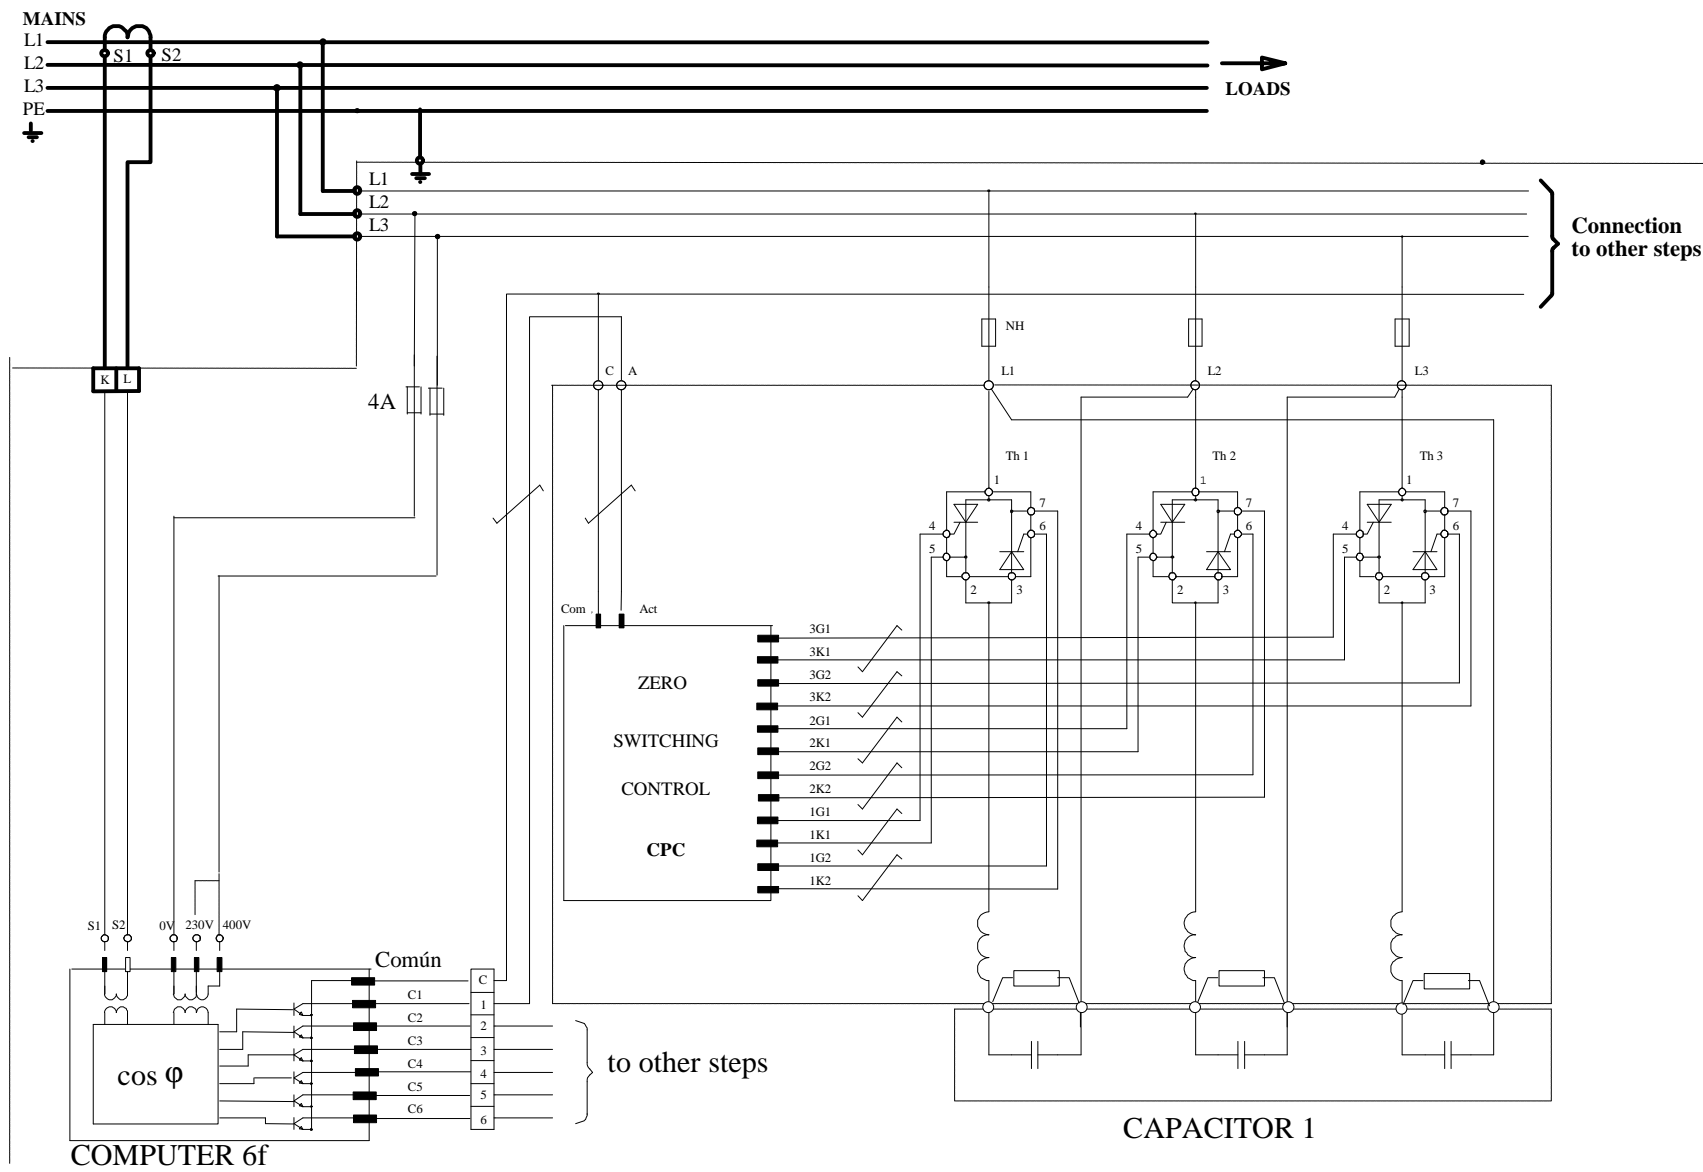

Figure 2.- Wire diagram showing the regulator and the first power step.
A simplified wire diagram showing only the first step of the EMK is represented in fig. 2. The power circuit for successive steps is analogous, i.e. , each thyristor and capacitor set, forming a step, is connected in parallel to L1, L2, L3 through the respective fuse. Each thyristor block (3 modules) is driven by a CPC card which receives the command signal through two wires coming from COMPUTER 6f output (potential free MOS contact). One of the wires is the common , C , connected to COM in the CPC, and the other comes from one of the outputs (C2 , C3 ... C6) corresponding to the driven step.
From the electrical point of view , the **EMK** is formed by the following blocks (see electrical wire diagram in fig. 2).
- The external wiring of a static capacitor bank is similar to a conventional capacitor bank using switchgears. The figure 2 shows a diagram including external wiring and internal connections to a single step (other steps will follow the same pattern).
- The PF regulator connections may be seen in figure 2. Notice that the voltage inputs must always be taken from phases L2 and L3 , choosing the suitable input of 230 or 400 V , depending on the phase to phase voltage at the line to be compensated.